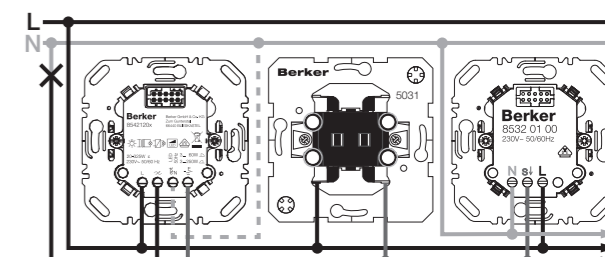

Figure 4: Push-button dimmer (Comfort) 1gang with optional extension units
- Optional on push-button dimmers comfort 1gang and 2gang: Connect suitable extension units (Figure 4 and 6).